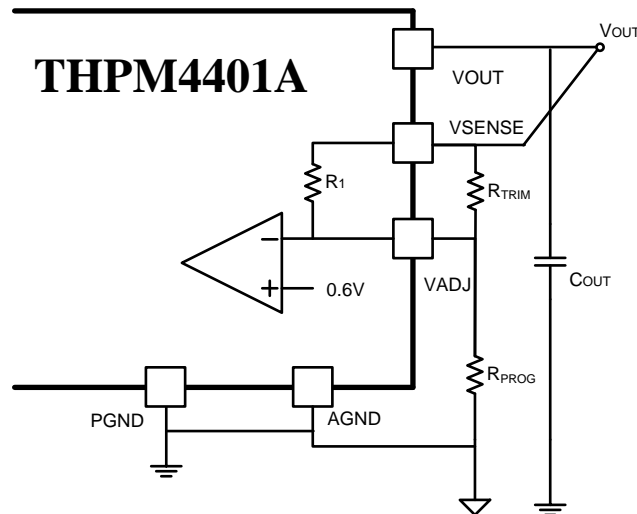

Fig. 14 Output Voltage Trim Circuit
To further adjust the output voltage, another resistor R_{TRIM} may be connected between VSENSE and VADJ, as shown Fig. 14. The resulting output voltage is a function of equation (2).